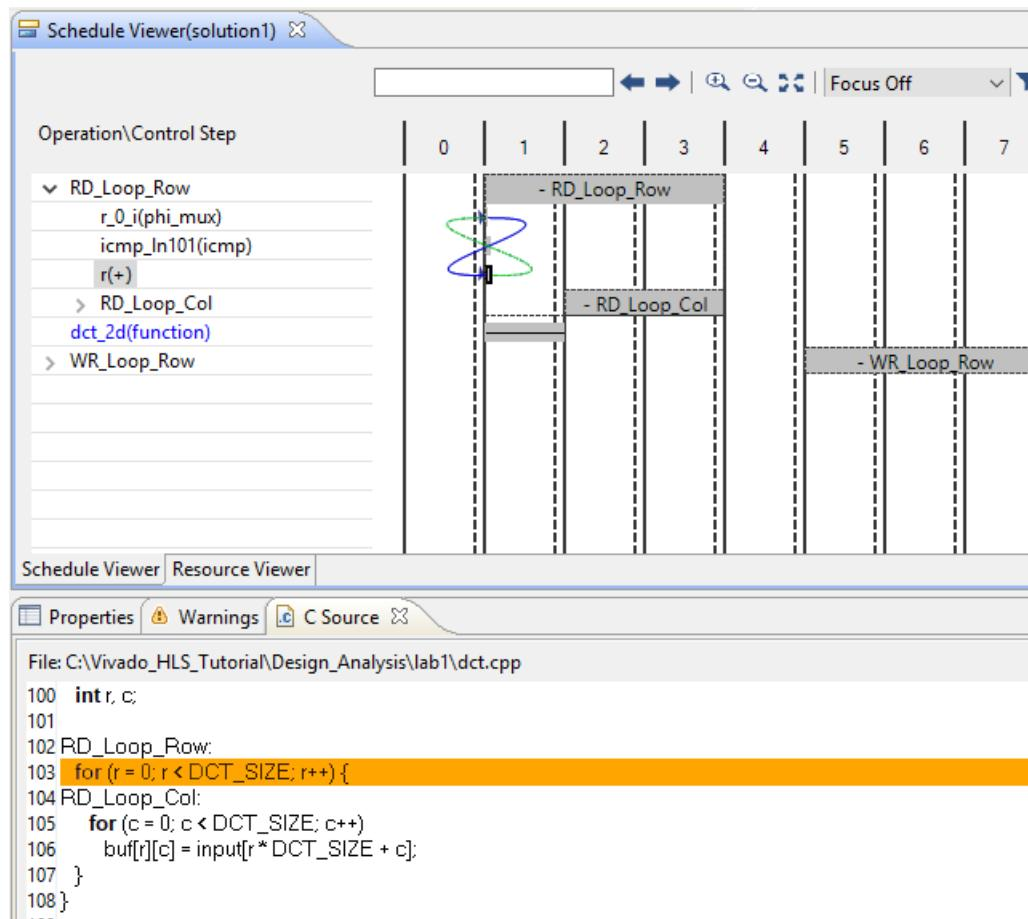

Figure 6-9: C Source Code View
3. Select the adder in state C1, right-click and select **Go to Source** (Figure 6-9).
- When the dialog box opens, press OK to select item 0.
This opens the C source code to highlight the operation in the C source that created this adder. From the details on screen (also shown in Figure 6-9), you can determine it is indeed the loop counter. It is the only addition on this line, and the variable is named "r".